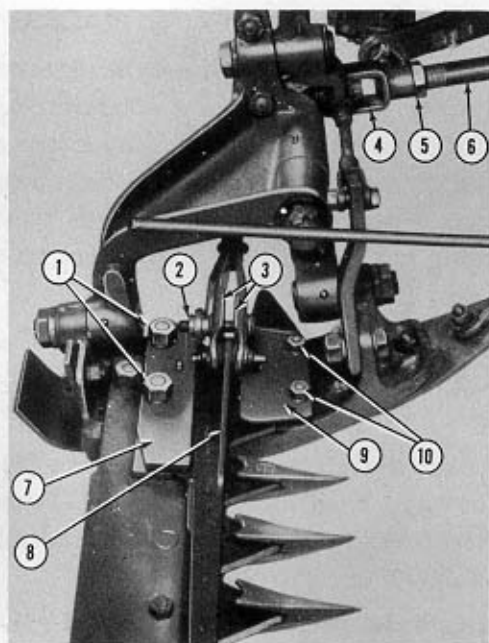

Figure 16
- a. Insert the knife (8), Figure 16, under the guide plates (7) and (9) with the cutting edge forward as shown.
- b. Back the lock nut (2) off of the bolt sufficiently and snap the pitman clamp (3) over the knife head as shown.
- c. Tighten the lock nut (2) up snug and back it off two notches.